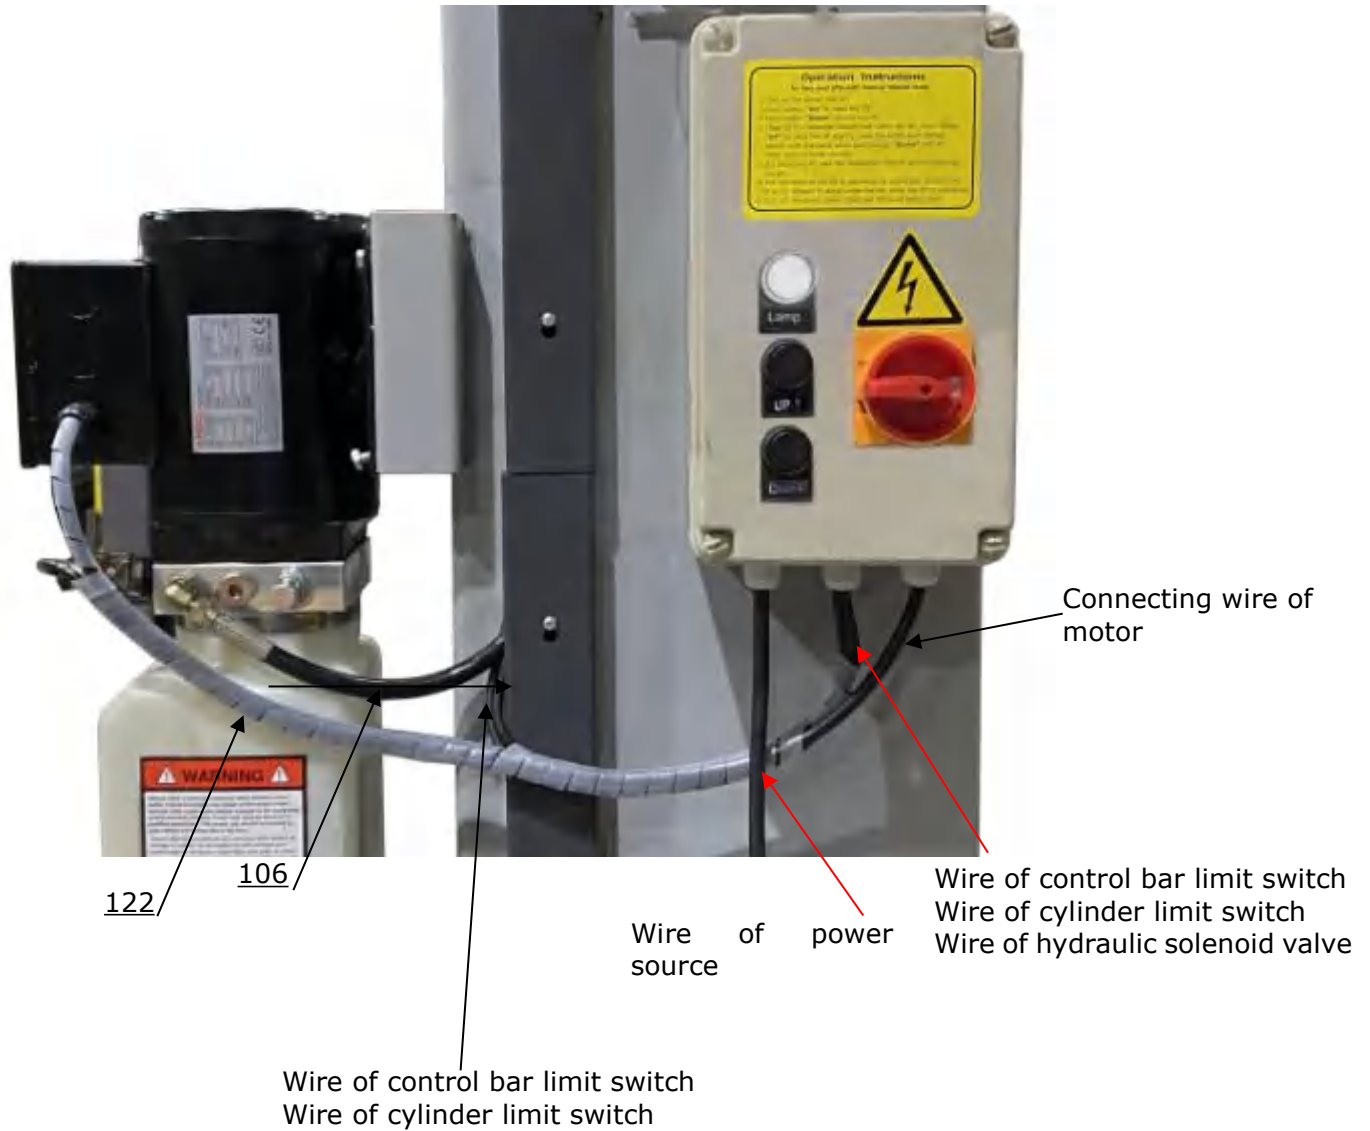

Fig.37
1. Connecting wire with control box (See Fig. 37).